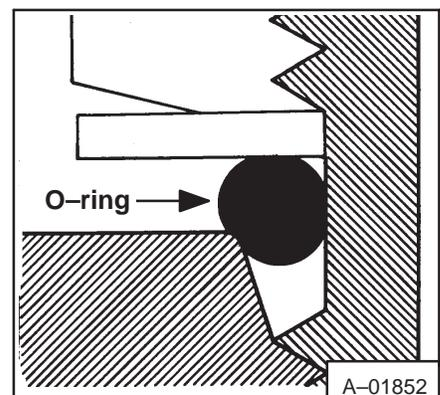

Fig. 2-5 Straight Thread Seal
1. Loosen the nut and slide the washer and O-ring against the thread (Fig. 2-5). Put oil on the O-ring.